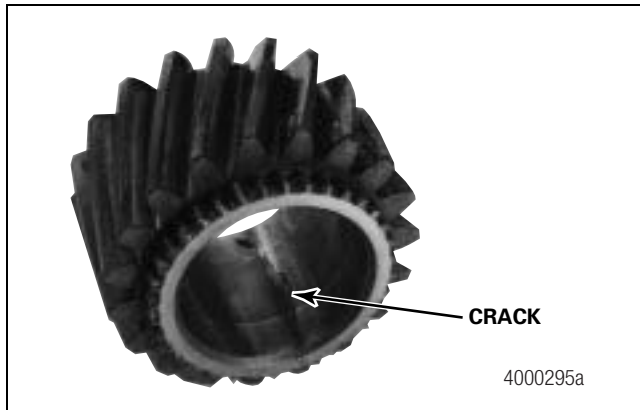

Figure 5.8
- Cracks along the internal journal of the input gears. Figure 5.8.